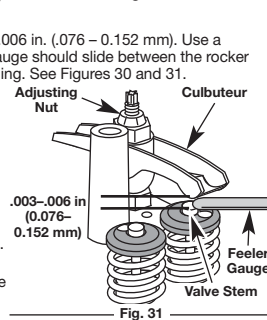

Fig. 31
- Turn the adjusting nut using a 5/16 inch (8 mm) wrench or nut driver (Fig. 31).